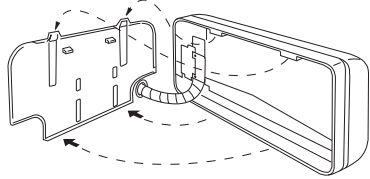

Fig. 3-61
- (2) Push the wiring, refrigerant tubing, and drain hose through the hole in the wall. Adjust the indoor unit so it is securely seated on the rear panel. (Fig. 3-61)